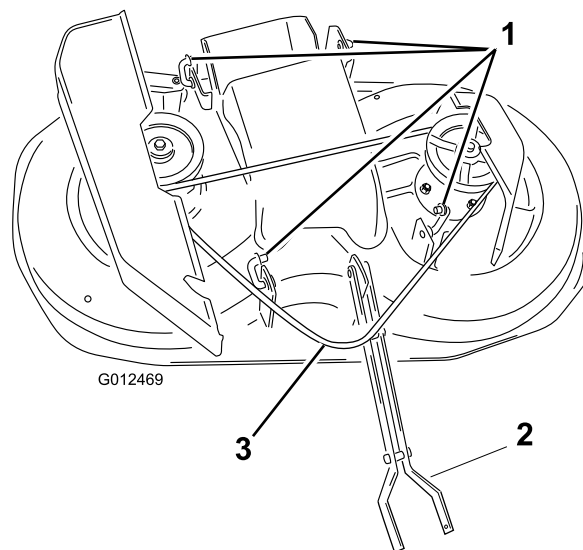

Figure 40
9. Remove the belt from the clutch pulley (Figure 40).
11. Remove the pins from the 4 rear links and remove the links from the tractor (Figure 40).
Note: You can leave the links attached to the mower as shown in (Figure 40).